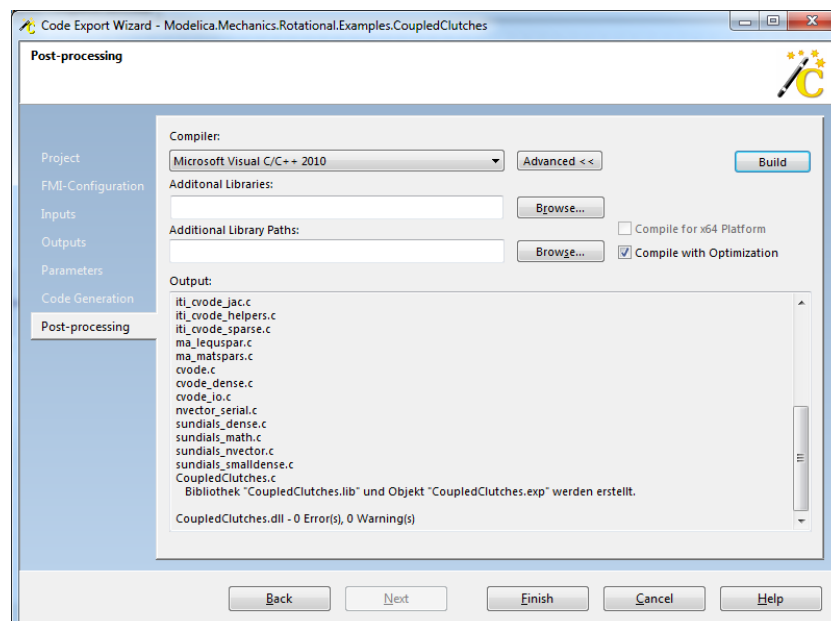

Figure 4: Post-Processing page of Code Export after build process has finished.
13. In the Post-Processing Tab, the actual FMU will be generated. Choose compiler *"Microsoft Visual C/C++ 2010"* and hit *"Built"*. The code will be generated and the output window will show the progress. Two build routines will run since the FMU is supposed to be compatible to both win64 and win32 platforms. After the build process has completed, the output according to Figure 4 will show up. Hit finish.